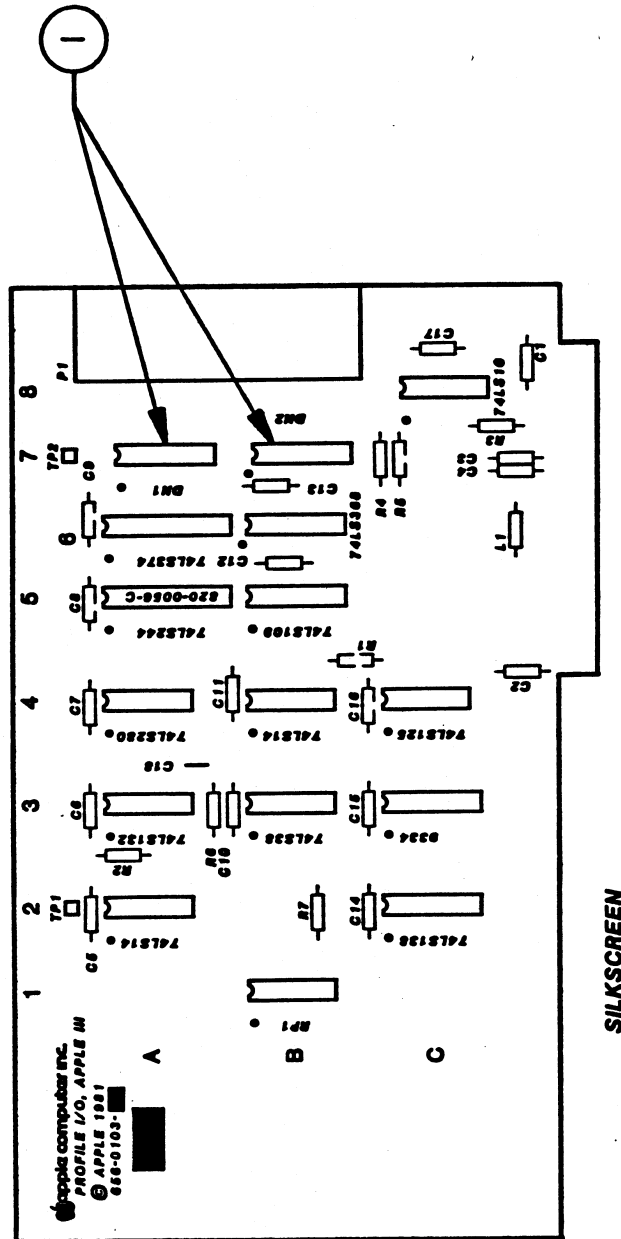

FIGURE 5
- 6.7 ProFile Interface Card (Figure 5)
(Figure 5)**